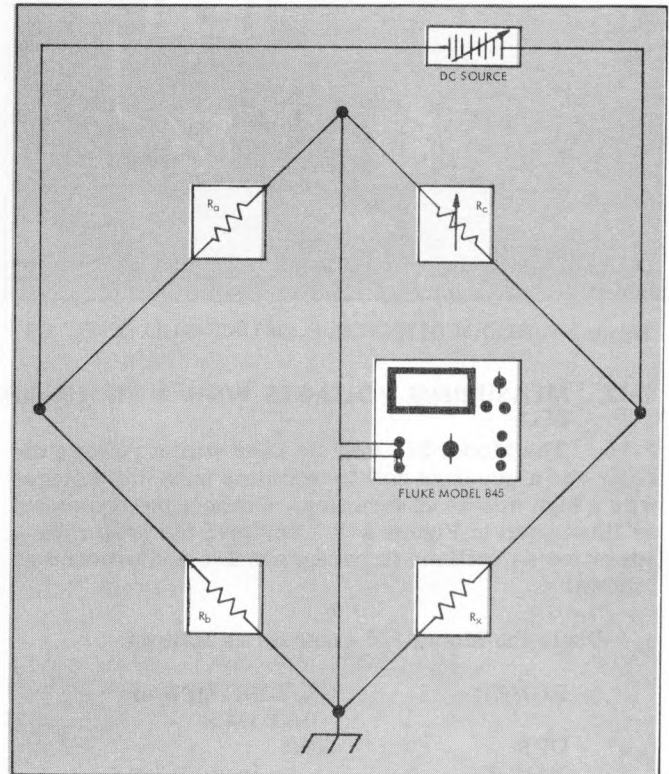

Figure 2-2. BRIDGE DETECTOR-FLOATING SUPPLY
2-16. The Model 845 may be used to monitor small voltage differences in bridge circuits, potentiometers, and other measuring apparatus. In most of these applications the circuits are adjusted for zero deflection or a null on the Model 845. Equipment connections for various types of null detector configurations are illustrated by Figure 2-2 through 2-4. To operate the Model 845 as a Null Detector perform the preliminary operations according to paragraph 2-5 and proceed as follows:
- a. Select the desired equipment application as illustrated by Figure 2-2 through 2-4 and make the appropriate equipment connections.